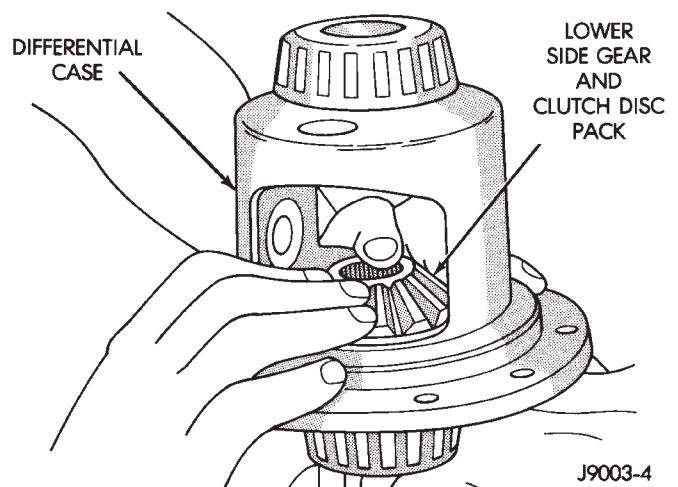

Fig. 15 Clutch Discs & Lower Side Gear Installation
(4) Position case on axle fixture.
(5) Install clutch pack and side gear in lower bore (Fig. 15). Be sure clutch pack retaining clips remain in position and are seated in the case pockets.